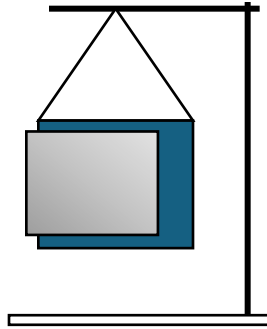

Fig. 8.4
- (e) Ice at 0 °C fills up the entire volume of a cylindrical container as shown in Fig. 8.4. The container is suspended from a support using insulating material.